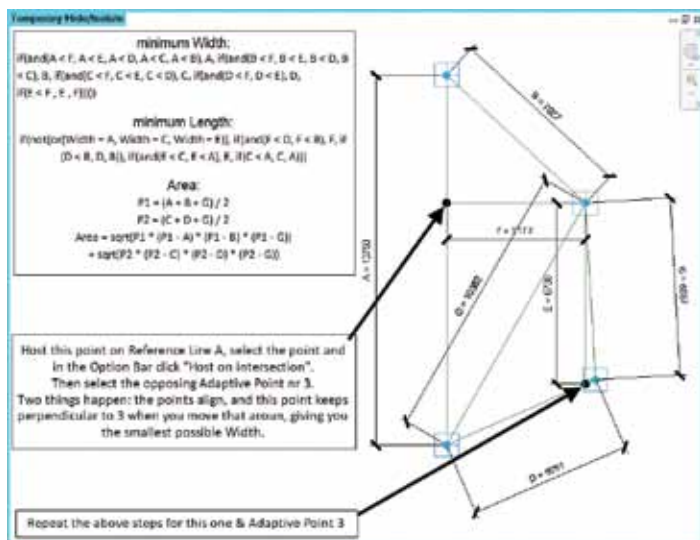

Figure 6: Finding smallest width and length and calculate area.
Then, you need another shared reporting parameter measuring the length of a diagonal (creating two triangles) and some basic math to calculate the area for any quadrangle shape with non-intersecting sides (which is cool since rooms usually don't have intersecting walls)—see Figure 6.
- Calculated Values Width (Length) and Area (Area), using the formulas in Figure 6.